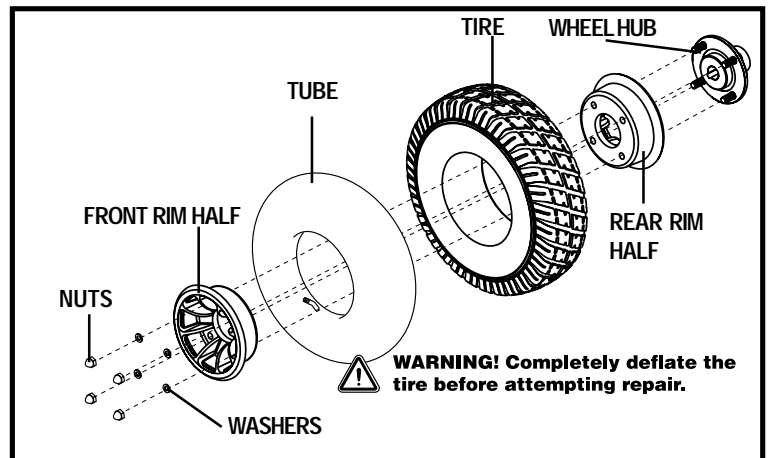

Figure 38. Quantum 1107 Drive Wheel Disassembled
6. Remove the nuts and washers from the wheel hub and separate the rim halves. See figure 38.